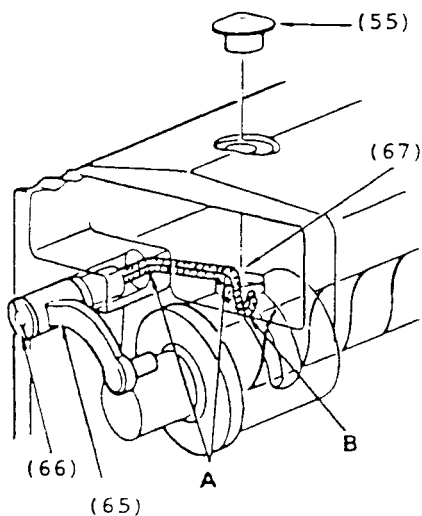
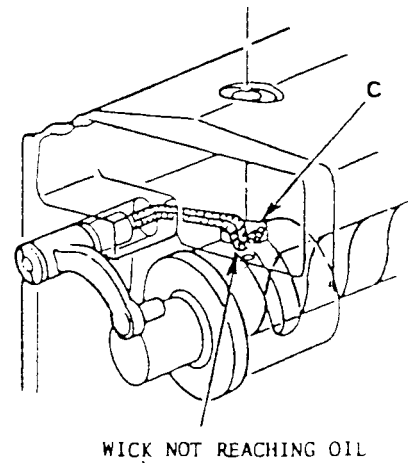

Fig. 27
Fig. 29
12. Securely tighten set screw (59).
13. Push the two oil wick leaders back into arm plug screw hole (55) and down through hole in arm casting and into slot in arm shaft bushing taking care that wick is slack over the edges of the holes in the casting at point A to insure free passage of oil. (Fig. 27) Use tweezers through the screw hole (55) to loop the wick and bring it into positive contact with the arm shaft approximately at point B.
CAUTION: If the bottom of either oil wick leader is caught on the ledge as shown at C, Fig. 29, no oil can be taken up by the wick to be carried to the thread take-up lever link area where it is needed. Make sure that the oil wick leaders are pushed all the way down into the smaller hole, without jamming, until they touch the arm shaft, as shown in Fig. 27.